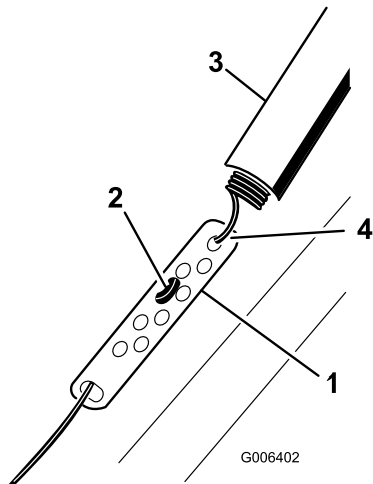

Figure 24
1. Slide up the spring cover and unhook the spring from the adjuster link (Figure 24).
2. Move the Z-fitting to a higher or lower hole on the adjuster link as needed to obtain the 2 to 3 mm (1/16 to 1/8 inch) gap between the control bar and the handle (Figure 24).